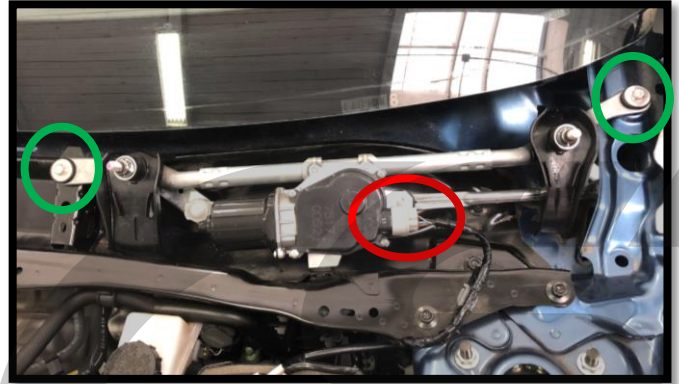

Figure 1h
n) Disconnect the electrical connector from the wiper motor. Push in the small tab on the underside and pull outward. Connector shown **circled in red** in **Figure 1h**.
o) Remove the two 10mm bolts that attach the wiper motor to the vehicle. Shown **circled in green** in **Figure 1h**.